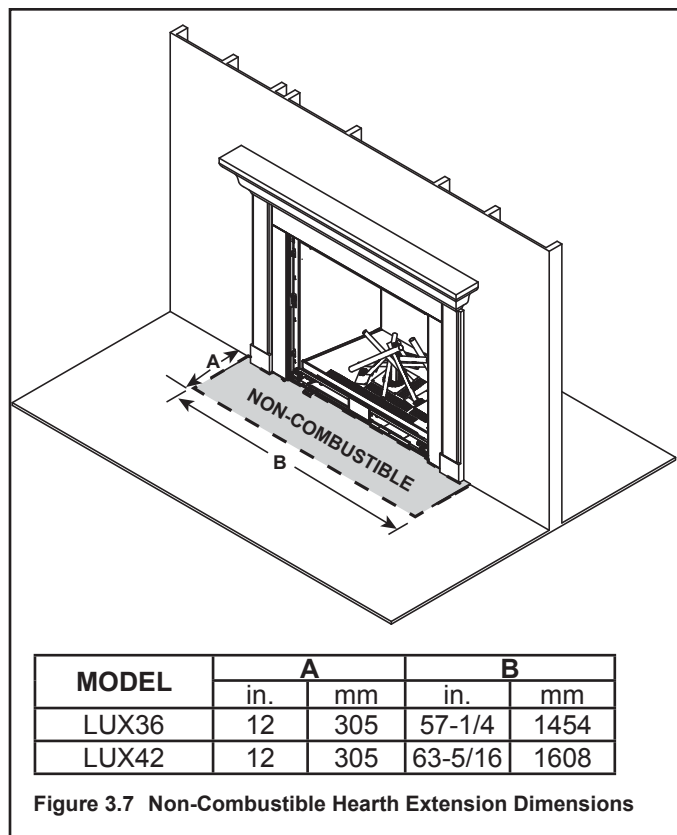
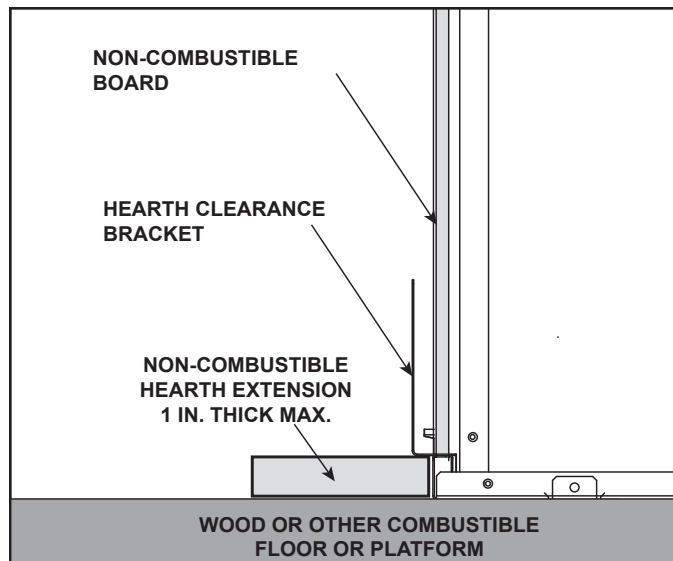
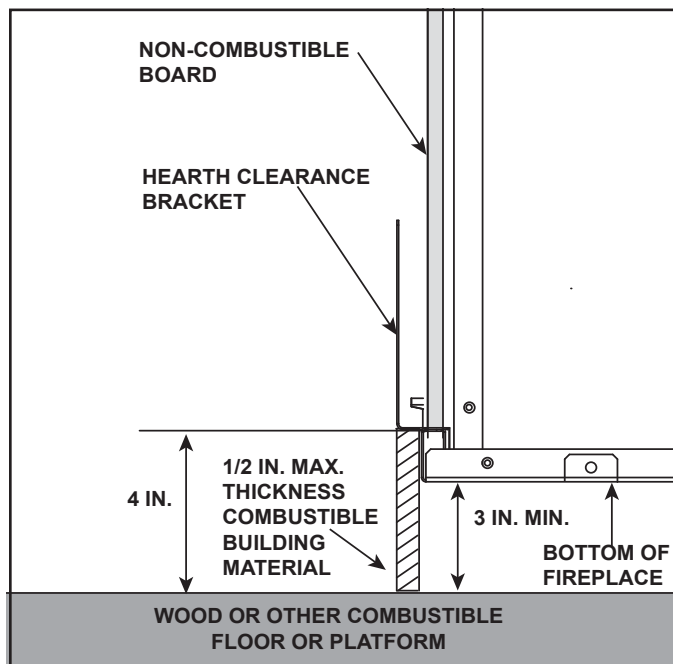

Figure 3.7 Non-Combustible Hearth Extension Dimensions
Figure 3.8 Appliance Installed on Combustible Surface
Figure 3.9 Appliance Raised a Minimum of 3 Inches Above
- Hearth extension must be non-combustible and serves to protect combustible floors in front of appliance. See Figure 3.7 and Figure 3.8.
- The base of the fireplace may sit on a combustible surface. See Figure 3.8. The area in front of the appliance must be protected by a non-combustible hearth extension, unless the appliance is raised a minimum of three inches above the combustible floor or hearth. See Figure 3.8 and Figure 3.9.
- If a hearth greater than one inch in thickness is desired, the appliance must be raised by the equivalent height to ensure that the hearth extension does not interfere with the installation of the glass assembly. See Figure 3.8.